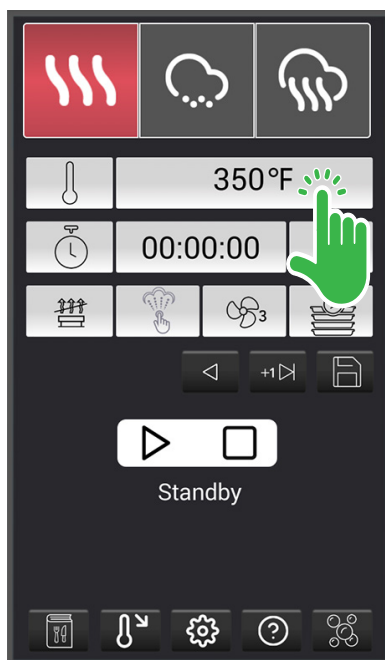
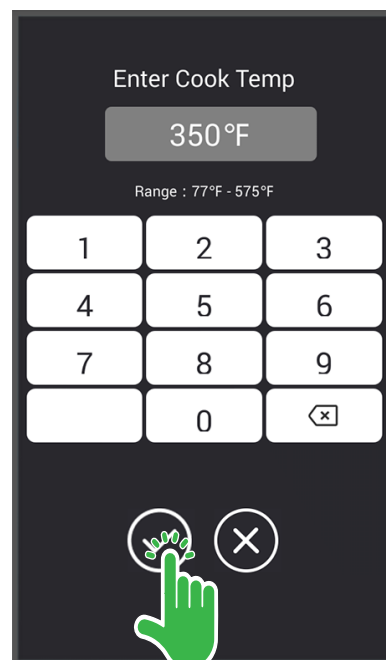

Fig. 24
Fig. 25
- From the **Home Screen** (Fig. 24), touch the desired cooking mode.
- Touch the Temperature Setting Display (Fig. 24) and enter the desired temperature on the **Temperature Adjustment Screen** (Fig. 25). Touch OK.